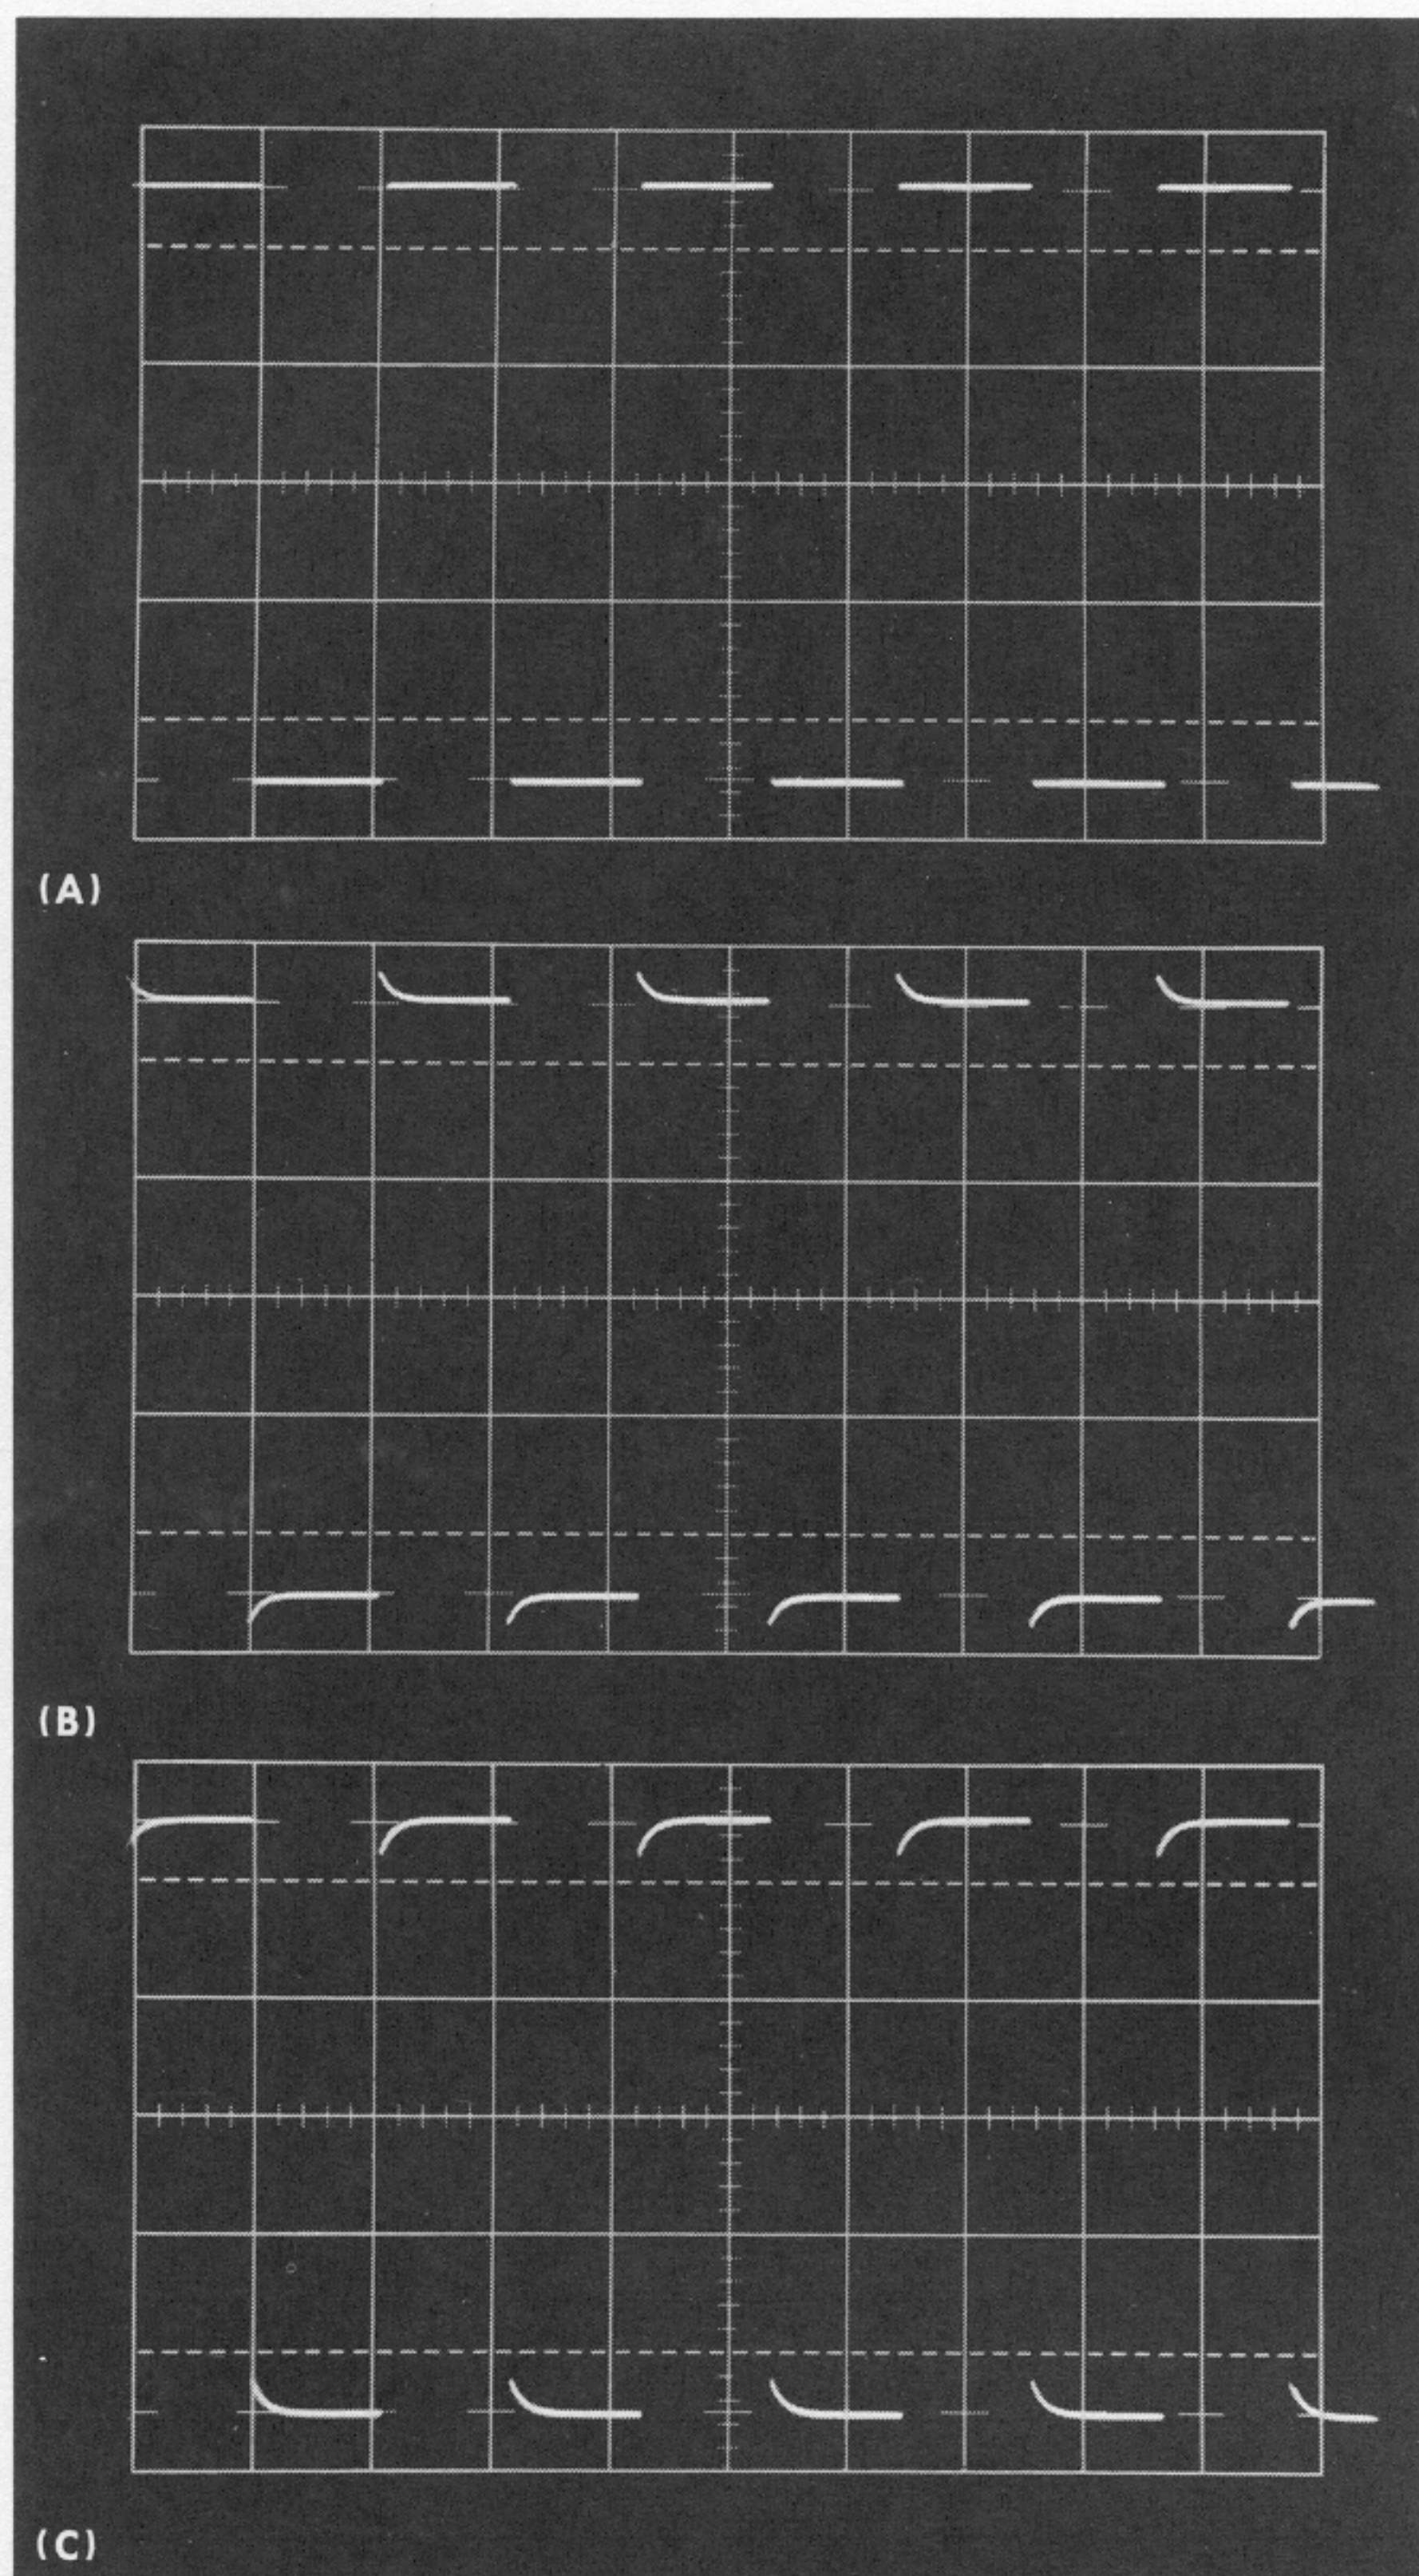

Fig. 5-14. Waveform showing (A) correct adjustment of Input Attenuator Time Constant. (B) and (C) Incorrect adjustment.
c. CHECK—Each square wave for a flat bottom, using Fig. 5-14 as a guide.